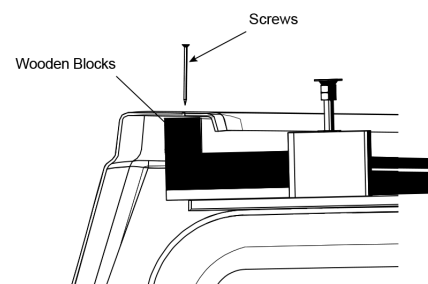

Figure 1
3. Using a blanket, cardboard, or other clean protective Wooden Blocks surface, turn the unit upside down and remove the screws and/or wooden blocks holding the apron and the bathtub together (figure 1).